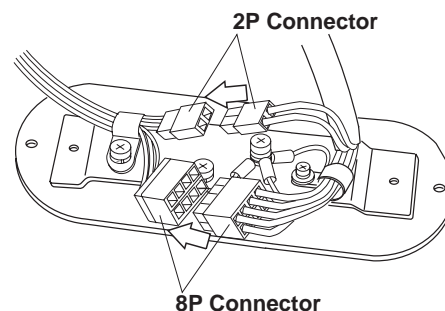

**Fig.3-11** Balance Arm Installation
3. Route the cable with 2P and 8P connectors from the balance arm shaft through the horizontal arm. Insert the balance arm into the horizontal arm. The cable should be fed through the bottom cover opening on the bottom of the horizontal arm. (**Fig.3-11**)
6. Re-attach the bottom cover to the horizontal arm with two screws. (**Fig.3-11**)